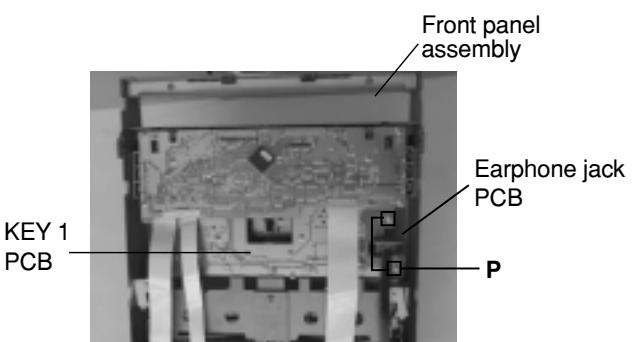

Fig.20
■ Removing the earphone jack PCB (See Fig.20)
(See Fig.20 to 23)**
- Remove eleven screws **R** retaining the switch (key 1) PCB.(Fig.20)